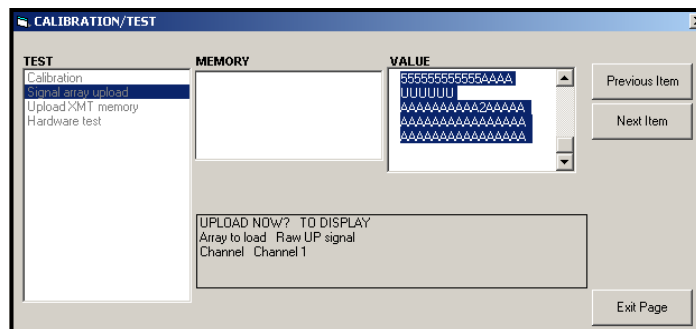

Figure 13: Signal Array Data Displayed on PanaView
- If you double-click on *To Display*, the right pane of the window appears similar to *Figure 13*, and the data is available for immediate evaluation. Click **[Exit Page]** to close the window and return to the *Calibration/Test* menu.